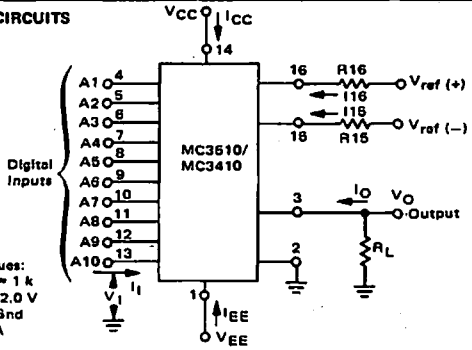

FIGURE 4 - RELATIVE ACCURACY TEST CIRCUIT
1.9 and 2.1 mA to produce a full scale output current of 3.996 mA. The relative accuracy test circuit is shown in Figure 4. The 14 bit D/A converter is calibrated for a full scale output of 3.996 mA. This is an optional step as the relative accuracy of the MC3410 is nearly constant between 3 mA and 5 mA full scale current. The MC3410 is calibrated at full scale with the 14-bit reference D/A by adjusting R16 until the error voltage goes to zero. The counter is activated and the error band may be displayed on an oscilloscope, detected by comparators, or stored on a peak detector.